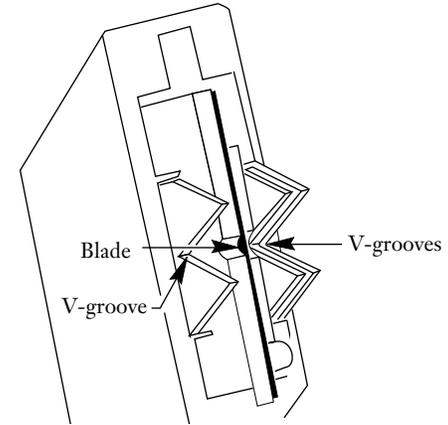

Figure 3
- b) Open the tool with its handles. Note the actual location of the blades in the blade housing (Figure 3).